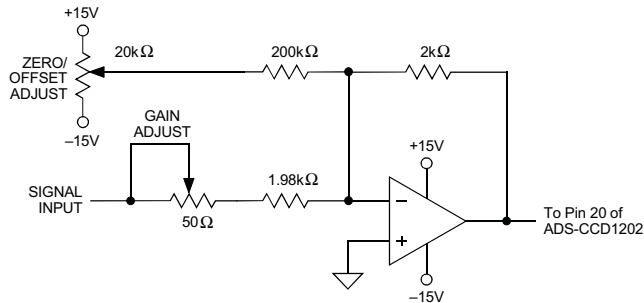

Figure 2. ADS-CCD1202 Calibration Circuit
Bypass all power supplies, as well as the REFERENCE OUTPUT (pin 21), to ground with 4.7µF tantalum capacitors in parallel with 0.1µF ceramic capacitors. Locate the bypass capacitors as close to the unit as possible. If the user-installed offset and gain adjusting circuit shown in Figure 2 is used, also locate it as close to the ADS-CCD1202 as possible.
2. ADS-CCD1202 achieves its specified accuracies without external calibration. If required, the device's small initial offset and gain errors can be reduced to zero using the input circuit of Figure 2. When using this circuit, or any similar offset and gain-calibration hardware, make adjustments following warmup. To avoid interaction, always adjust offset before gain.
**CALIBRATION PROCEDURE (Refer to Figures 2 and 3)**
Any offset and/or gain calibration procedures should not be implemented until devices are fully warmed up. To avoid interaction, offset must be adjusted before gain. The ranges of adjustment for the circuit of Figure 2 are guaranteed to compensate for the ADS-CCD1202's initial accuracy errors and may not be able to compensate for additional system errors.
All fixed resistors in Figure 2 should be metal-film types, and multi-turn potentiometers should have TCR's of 100ppm/°C or less to minimize drift with temperature. In many applications, the CCD will require an offset-adjust (black balance) circuit near its output and also a gain stage, presumably with adjust capabilities, to match the output voltage of the CCD to the input range of the A/D. If one is performing a "system I/O calibration" (from light in to digital out), these circuits can be used to compensate for the relatively small initial offset and gain errors of the A/D. This would eliminate the need for the circuit shown in Figure 2.